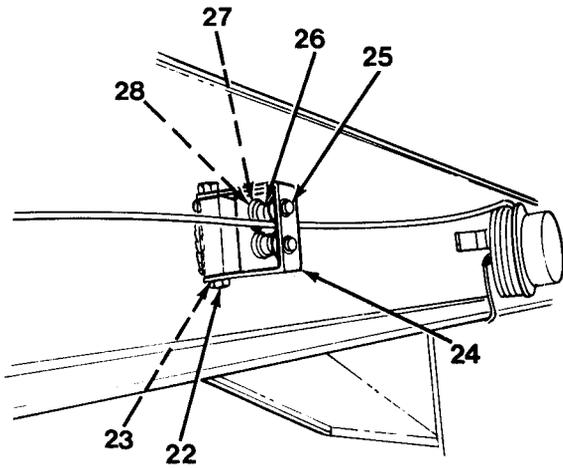

Figure 10-5
11. Remove two capscrews (22), lockwashers (23) and roller bracket (24, Figure 10-5).
12. Disassemble roller bracket (24) by removing nut (25), roller (26), washer (27) and shoulder screw (28). Repeat for other roller.